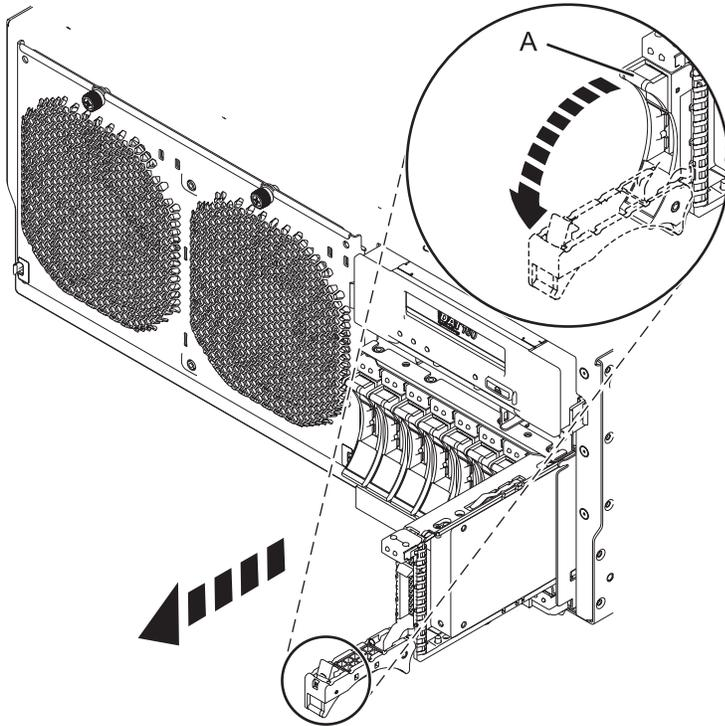

Figure 22. Removing the disk drive from the backplane
- 2) Place one hand under the disk drive and carefully pull the drive out of the system as shown in Figure 22 on page 41.